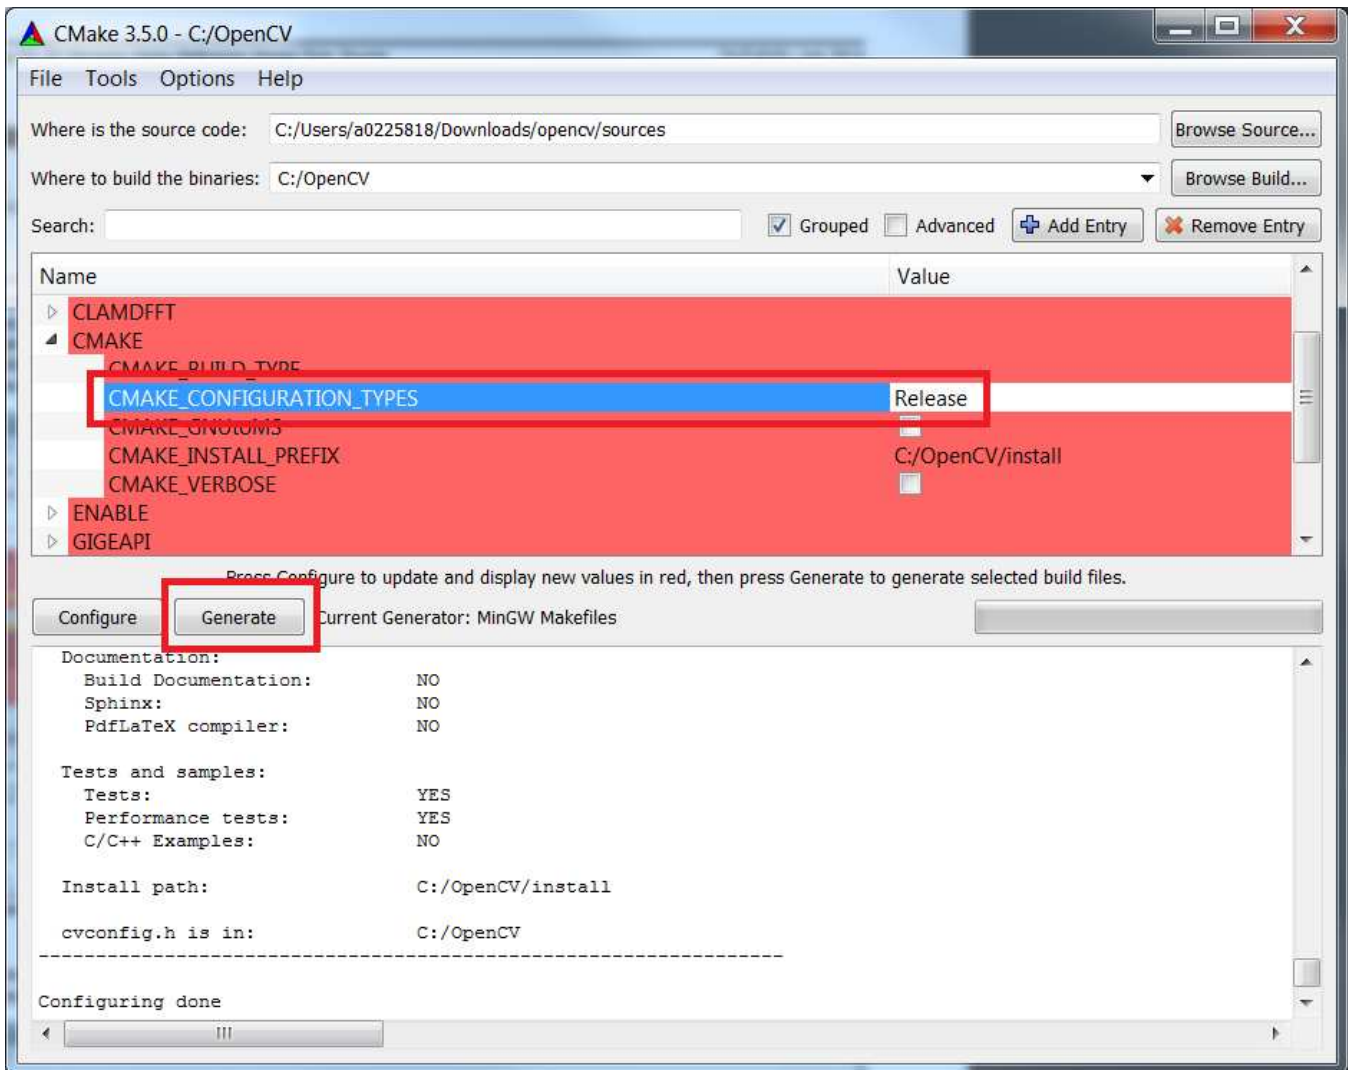

Figure 34. Change Configuration Type to Release
- Find CMAKE_CONFIGURATION_TYPES as shown in Figure 34. Type “Release” into that space. Click on the “Generate” button. Allow CMake to run and finish generating the files. There should be no errors.